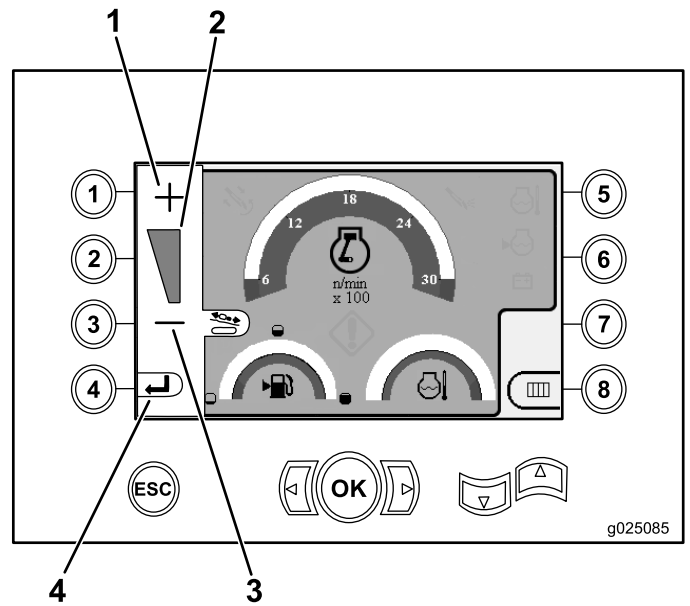

Figure 19
1. Press button number 1 to increase the torque output, or button number 3 to decrease the torque output of the machine (Figure 19).
2. After setting the torque output, press button number 4 (Figure 19), and return to the Main Operating Screen (page 26).